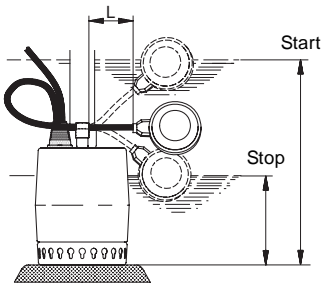

Fig. 7 Start/stop levels, Unilift KP-A
To enable the float switch to start and stop the pump, the free cable length (L) must be min. 70 mm and max. 150 mm. See fig. 7.